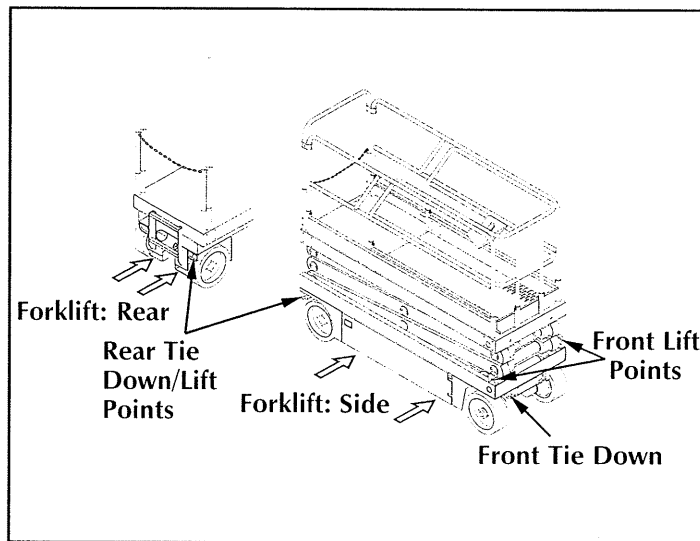

Figure 2-2: Transporting machine
Forklift from the side or rear by lifting under the Chassis (Figure 2-2).
Secure straps to chassis tie lift points **only** (Figure 2-2).
2. Secure the work platform to the transport vehicle with chains or straps of adequate load capacity attached to the chassis tie down points (Figure 2-2).